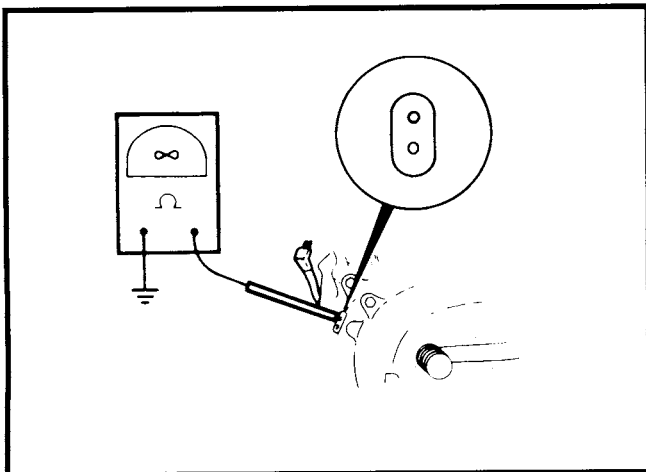

Figure 11. Test for Grounded Stator
2. See Figure 11. Connect an ohmmeter on the RX1 scale between crankcase and either stator socket. There should be no continuity (∞ ohms) across either test point. Any other reading indicates a grounded stator which must be replaced.